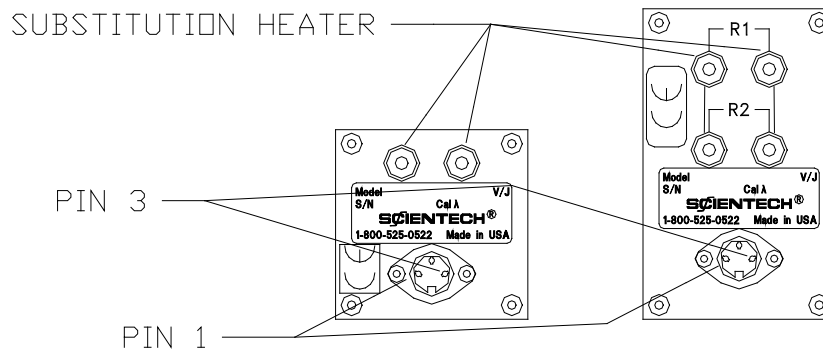

Figure 6. Large Calorimeter Connector Panel
- A. Connect a DVM to the white jacks of the calorimeter. Refer to Figure 6.
For this procedure you will need to make an adapter cable to go from the calorimeter's DIN connector to the DVM. The voltage output is on pin 1 of the DIN connector and should be connected to the positive side of the DVM. Ground is on pin 3 and should be connected to the negative side. Pin 2 is not used. Refer to Figure 6.
When large aperture calorimeters are used without an power meter their interface module is not used. The output of the calorimeter is connected directly to the DVM or chart recorder. Large aperture calorimeters do not require any power. The voltage output is on pin 1 of the DIN connector and should be connected to the positive side of the DVM or chart recorder. Ground is on pin 3 and should be connected to the negative side. Pin 2 is not used. Refer to Figure 6.